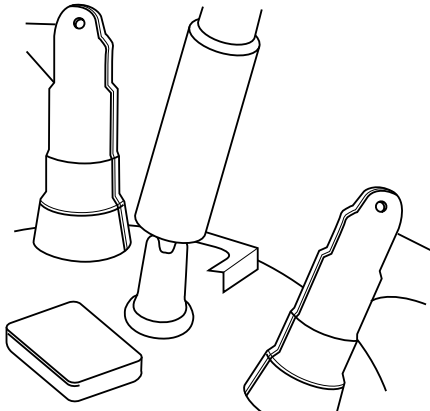

Figure 11. Unscrew sealing cap from apparatus.
- Standing in a safe position, use hotstick to unscrew sealing cap from apparatus. (See Figure 11.)